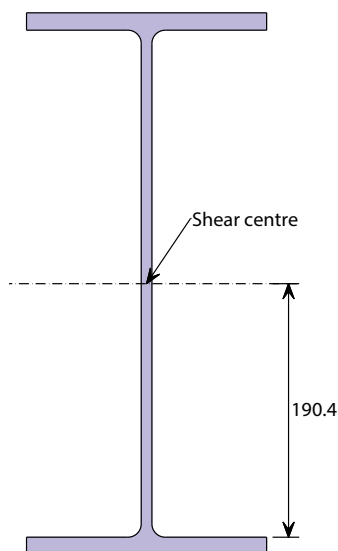

Figure 2: Application of the wheel loads
In fact, clause 6.3.2.2(3) of BS EN 1993-6 allows the benefit of stabilising loads to be taken into account, as explained in Part 1. With loads applied on top of the bottom flange, $z = -190.4$ mm, as shown in Figure 2 (negative as the loads are applied below the shear centre). If advantage is taken of this effect, $M_{b,Rd}$ increases to 280 kNm.